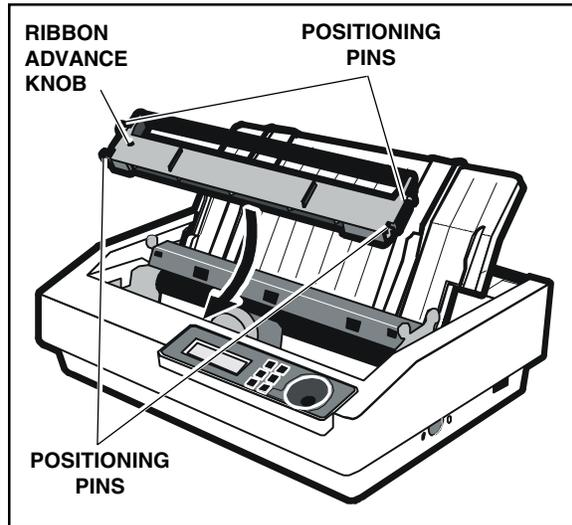

Figure 2-6. Installing the Ribbon Cartridge
6. Lower the ribbon cartridge down into place, as shown in figure 2-6. Make sure that the positioning pins on the ends of the cartridge are in the mounting slots on the printer frame and that the ribbon sprocket on the bottom of the cartridge is mounted on the spindle.